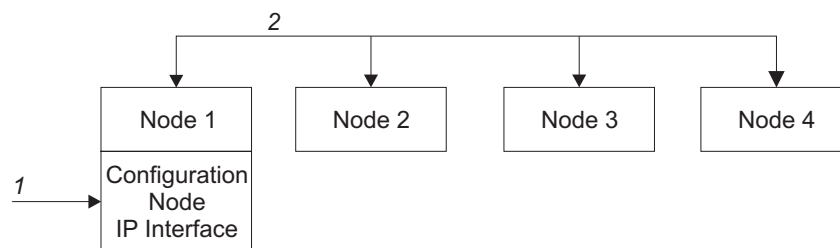

Figure 4. Configuration node
Figure 4 shows an example cluster containing four nodes. Node 1 has been designated the configuration node. User requests (1) are handled by Node 1.